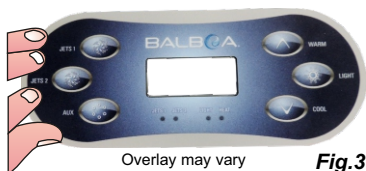

Fig.3
Step 3 - Remove protective film from display window then clean the face of the spaside. Now carefully align and apply the label. (Fig.3)